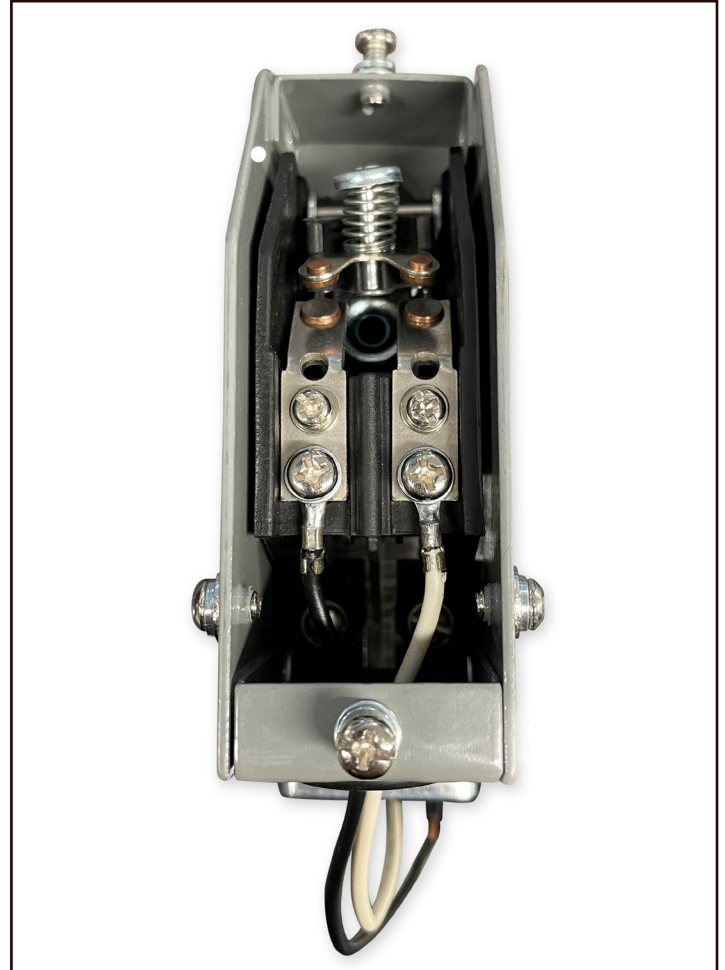

Figure 1
1. The SGL governor CSA approved overspeed switch, is factory installed in the governor. It has to be connected using CSA approved anti-shorts and insulated eyelet crimp on connectors (see figure 1).